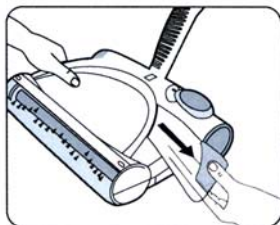

Fig. 5
1. Pull the dust container straight out from the side. (Fig. 5)